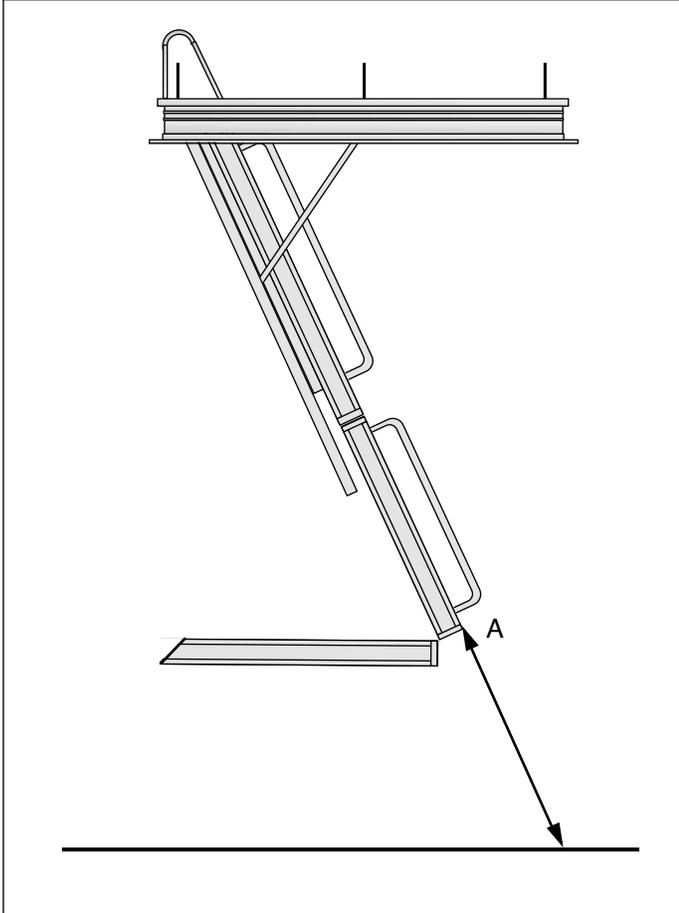

Figure 8
- \* Using a straight-edge, measure on the front side of the stair from point "A" to floor. Figure 8.